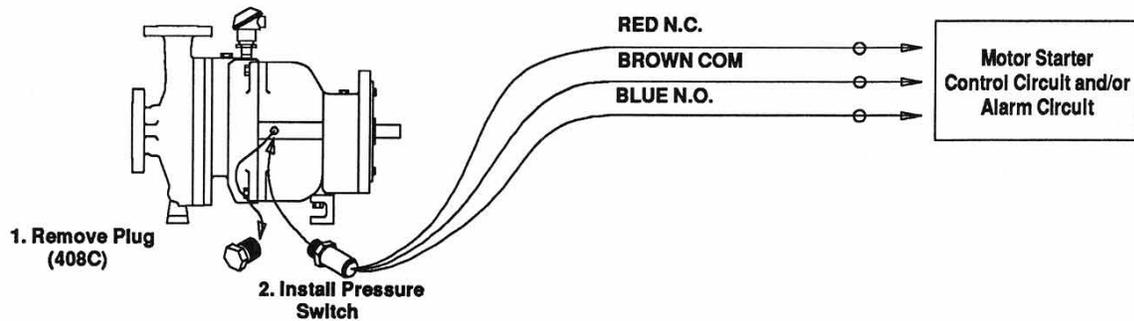

Figure 1
1. Remove ¼" NPT pressure switch plug (408C) from bearing frame bell housing (Fig. 1).
4. Wire switch to customer supplied monitoring system for either normally open (N.O.) or normally closed (N.C.) as shown (Fig. 1).